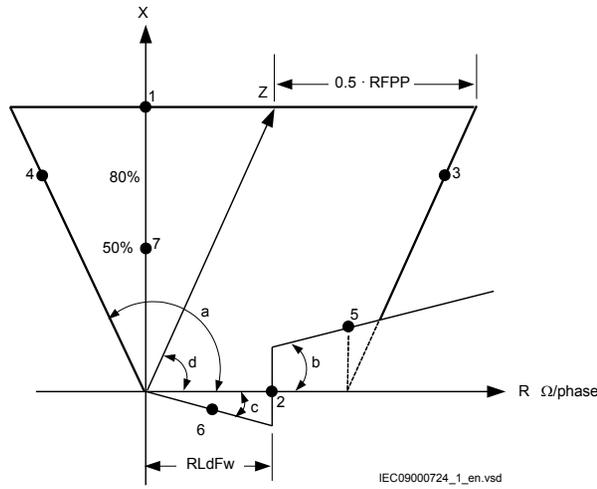

Figure 9: Distance protection characteristic with test points for phase-to-phase measurements
Table 2 is used in conjunction with figure 9.
2. Apply the fault condition and slowly decrease the measured impedance to find the operating value of the phase-to-phase fault A-B for zone 1 according to test point 1 in figure 9 and table 2. Compare the result of the measurement with the set value.
2. Apply the fault condition to find the operating time for the phase-to-phase fault according to test point 7 in figure 9 and table 2 for zone 1. Compare the result of the measurement with the setting *tIPP*.